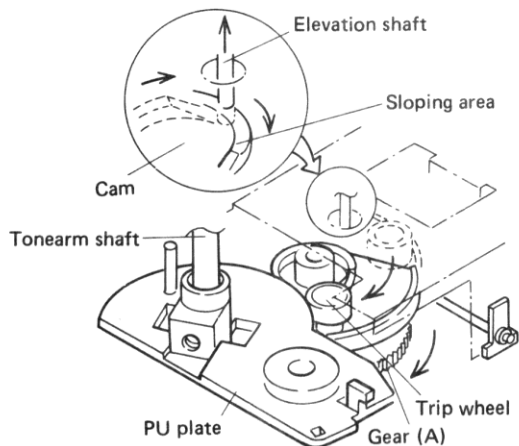

Fig. 4-4 Lead in operation
3. Refer to Fig. 4-4. The elevation shaft contacts the sloping area located around the center shaft of the cam. Also note the position of the cam at this time. This is the position the mechanism will be in prior to starting up the unit. The tonearm will be on the arm rest, and arm-elevation will be in the DOWN position.